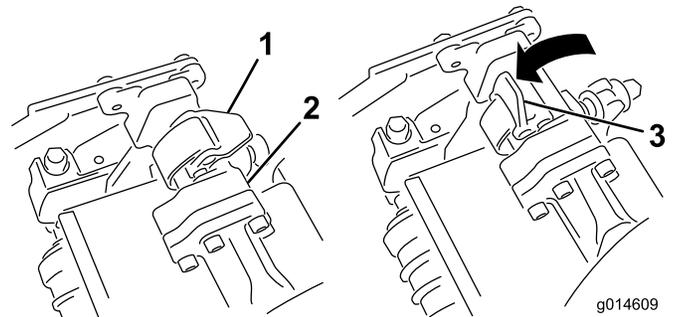

Figure 33
- Close the latches down and around the cutting-unit bar and lock them in place (Figure 33).
5. Open the latches on the suspension-arm bar of the cutting unit you are removing (Figure 33).